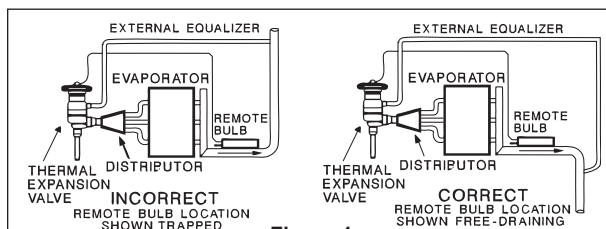

Figure 1
7. Connect one end of the external equalizer line to the valve. Connect the other end to the suction line, slightly downstream from the remote bulb location, and positioned so that it cannot siphon oil from the suction line. See figure 1.